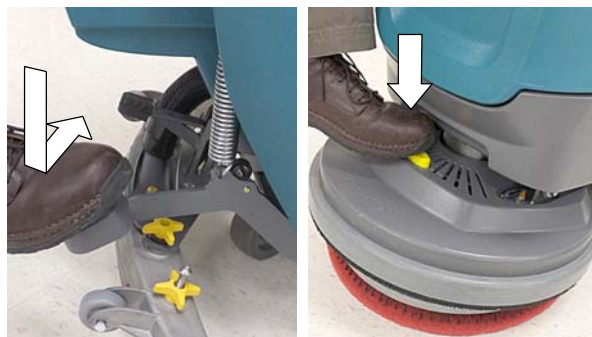

FIG. 11
- To remove the pad driver(s)/brush(es), raise the scrub head and press the yellow plunger button with foot or hand (Figure 11). Pad will drop to floor.